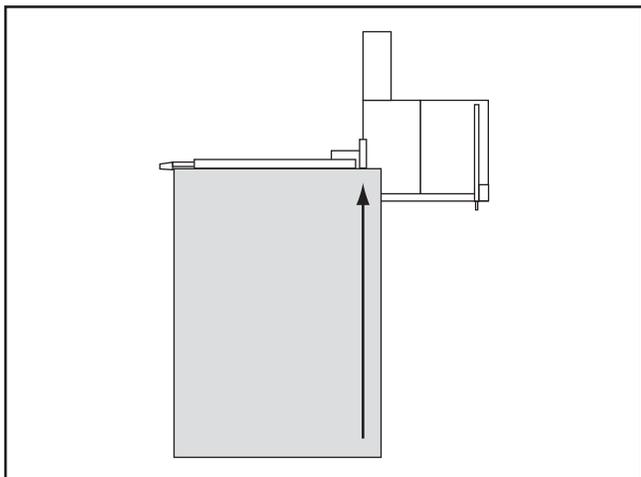

Figure 103. Crosscut fence mounted forward to handle full size panel.
The Model G0699 crosscuts full size panels with the fence in the forward or rear position. However, it is easier to load full size panels with the crosscut fence mounted in the forward position, as shown in **Figure 103**.
- Load the workpiece onto the table saw. The set up should look similar to **Figure 103** on the previous page.